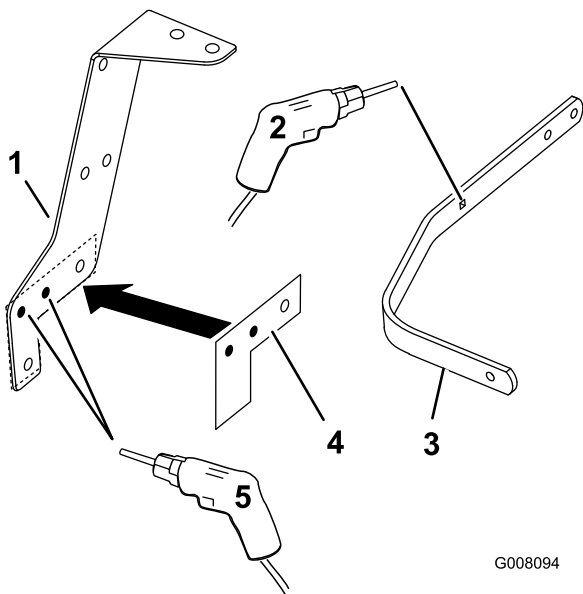

Figure 7
4. Using the paper template in the back of these instructions, mark and drill 2 holes (11/32 inch diameter) into the hood support bracket (Figure 7).
5. Drill a 17/64 inch diameter hole into the existing hole in the engine guard strap (Figure 7).